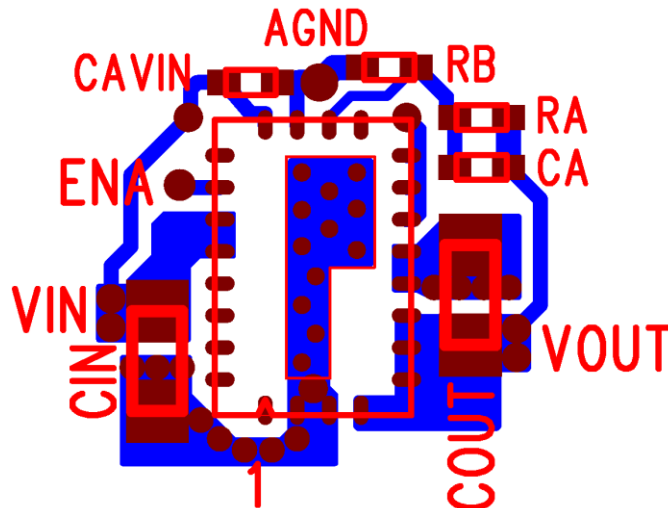

Figure 9: Optimized Layout Recommendations
**Recommendation 5:** AVIN is the power supply for the small-signal control circuits. It should be connected to the input voltage at a quiet point. In Figure 9 this connection is made at the input capacitor. Place a 1µF capacitor from the AVIN pin to AGND right next to device pins.